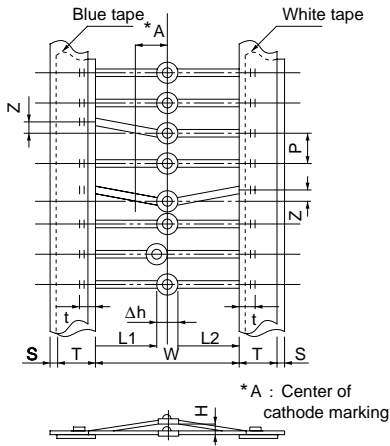

**Fig. 9-a Collector-emitter Saturation Voltage vs. Irradiance**
**Fig. 9-b Collector-emitter Saturation Voltage vs. Irradiance (PT460F/465F)****Fig. 9-c Collector-emitter Saturation Voltage vs. Irradiance (PT461)****Fig. 9-d Collector-emitter Saturation Voltage vs. Irradiance (PT461F)**